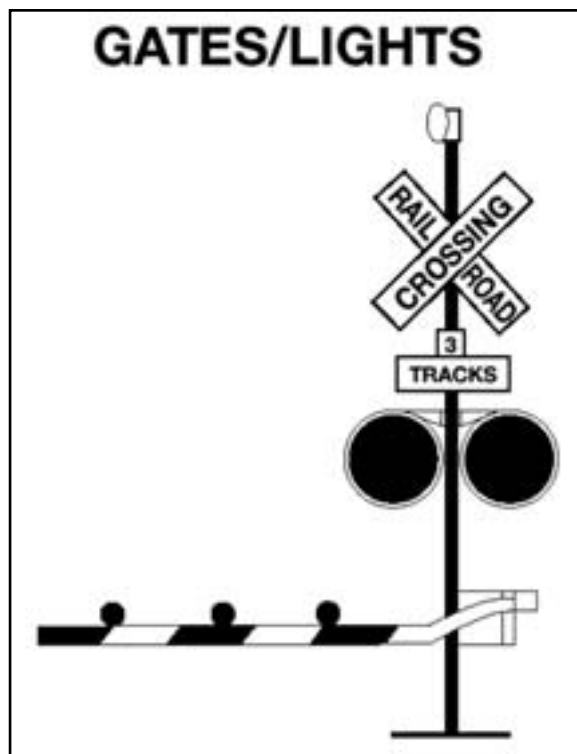

Figure 13.8
**Flashing Red Light Signals.** At many active highway-rail grade crossings, the crossbuck sign has flashing red lights and bells. When the lights begin to flash, stop! A train is approaching. You are required to yield the right-of-way to the train. If there is more than one track, make sure all tracks are clear before crossing. See Figure 13.8.
**Gates.** Many active railroad-highway crossings have gates with flashing red lights and bells. Stop when the lights begin to flash and before the gate lowers across the road lane. Remain stopped until the gates go up and the lights have stopped flashing. Proceed when it is safe. If the gate stays down after the train passes, do not drive around the gate. Instead, contact your dispatcher. See Figure 13.8.